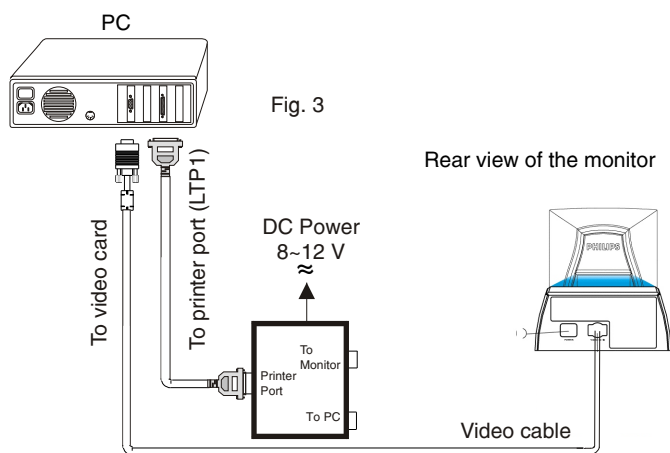

Fig. 3
Step 2: Connecting printer cable and video cable of monitor as shown in Fig.3.